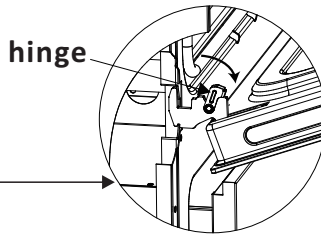

Fig.2
2. Rotate the hinge locks as shown (Fig. 2).